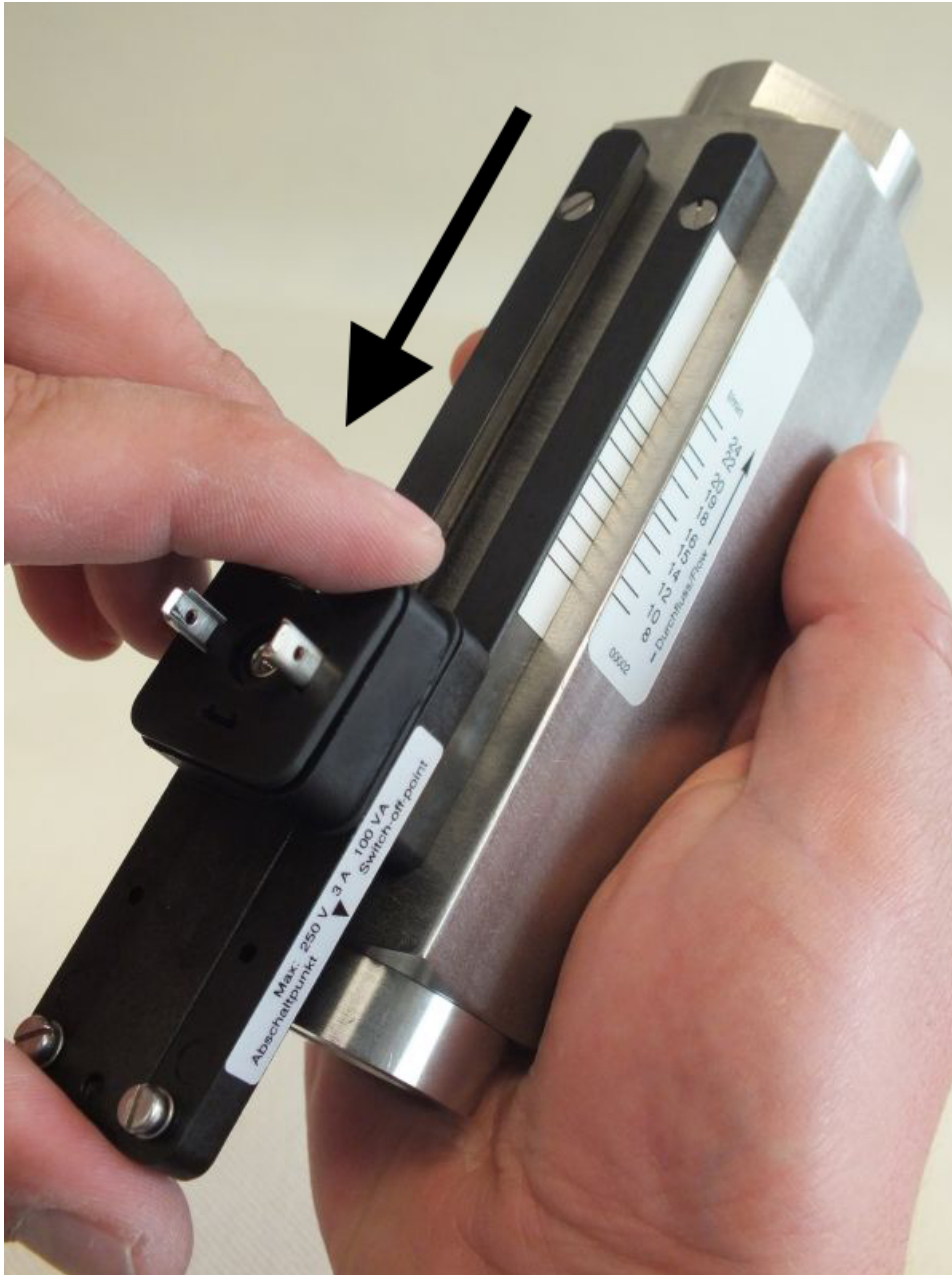

Fig. 81: Remove switch contact from guide rails
4. ➤ Remove the switch contact from the guide rails by sliding the switch contact in the direction of the arrow (Fig. 81)